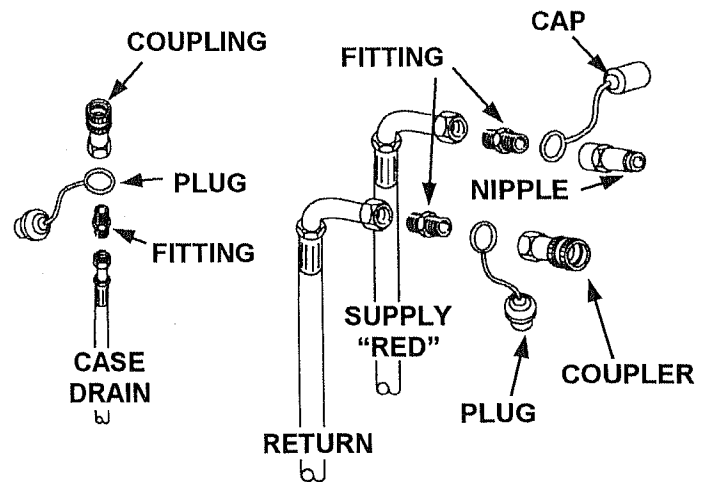

FIGURE 34
6. Figure 34 shows the correct installation of fittings and couplings. Make sure they are securely fastened in place.